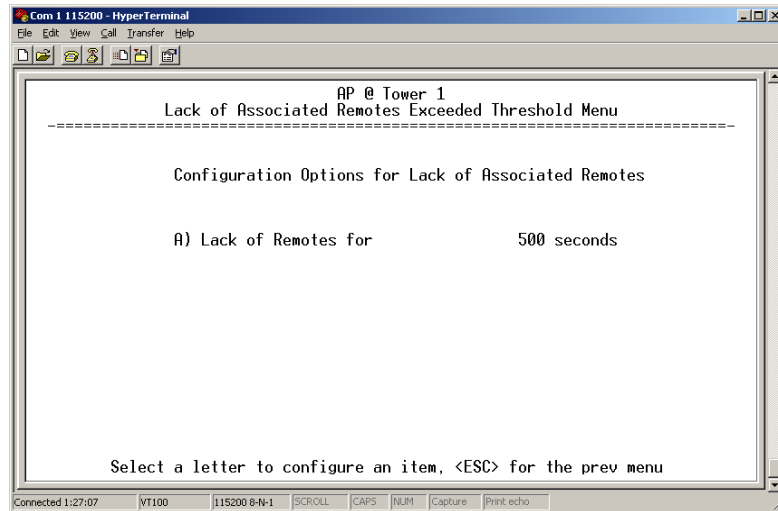

Figure 3-38. Lack of Associated Remotes Exceeded Threshold Menu
- **Lack of associated remotes exceeded threshold**— This setting determines whether or not a switchover occurs when a lack of associated Remote units exceeds the time period set in Figure 3-38 on Page 65. [**enabled, disabled; disabled**]
- **Lack of Associated Remotes Exceeded Threshold**—This selection presents a submenu (Figure 3-38) where you can view or change the time period allowed for a lack of associated Remotes.